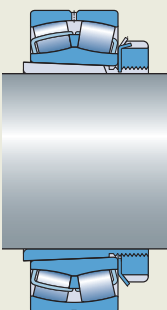

Fig. 20
- a withdrawal sleeve with a distance ring (or shaft shoulder) and lock nut (fig. 20)